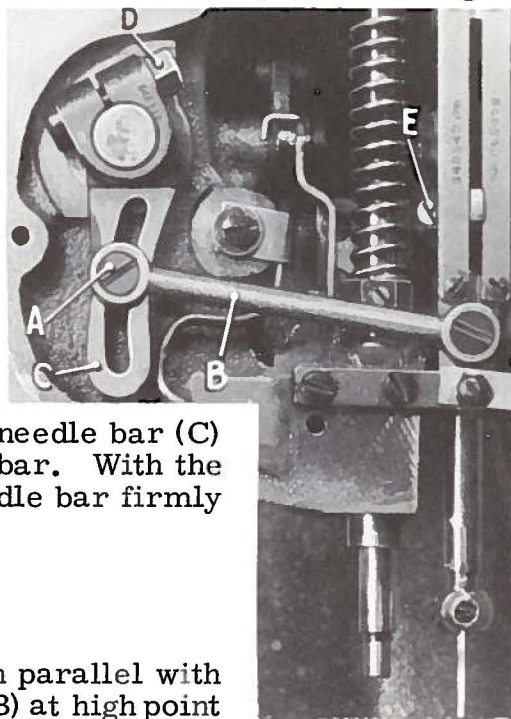
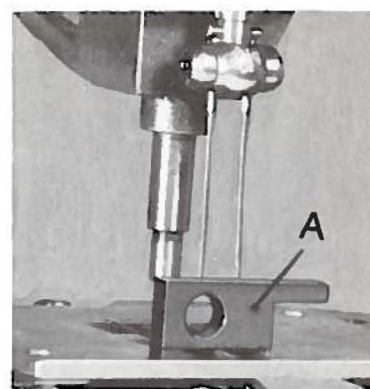

Fig. 2
Fig. 8
Insert a new set of needles, Type 133GS, and with feed dog in machine, turn handwheel until needles correspond with needle holes in feed dog, without deflection, either at the front or back of needle hole. Synchronize travel of feed dog and needle at $13/64$ inch, approximately 5 stitches per inch. To set needle travel at approximately 5 S. P. I., loosen screw (A, Fig. 2) and slide link (B) to bottom of slot in needle feed drive lever (C) and re-tighten screw.
To establish the correct distance between needle bar and presser bar, use gauge 21227 BT (A, Fig. 4). Loosen nut on needle feed drive lever (D, Fig. 2). Place gauge 21227 BT on presser bar (B, Fig. 4) with part number up. Rotate gauge in a counterclockwise direction so the shortest surface slips between the presser bar (B) and the needle bar (C) and the longest surface stops against the needle bar. With the needle bar at the bottom of its travel, hold needle bar firmly against the gauge and re-tighten nut (D, Fig. 2).
Set the height of the needle bar so that the points of the needles are approximately $\frac{1}{2}$ inch above the top surface of the throat plate when the needles are at the high point of travel using gauge No. 21227 BT (A, Fig. 8) on its side. Loosen screw (E, Fig. 2) and move needle bar up or down as required and then tighten screw.
Start operating on a piece of fabric. Set stitch to required length. To alter stitch length, loosen nut (C, Fig. 11) (it has a left hand thread) and turn screw (D) in head of main shaft until desired stitch length has been attained and tighten nut. Turning screw in a clockwise direction shortens the stitch and turning screw in a counter-clockwise direction lengthens the stitch. The travel of the needle bar should be changed to correspond to the travel of the feed dog and this is accomplished by loosening screw (A, Fig. 2) and sliding link (B) up or down until the movement of the feed dog and the needle bar are synchronized. Sliding the link upward shortens the travel of the needle bar and sliding it downward lengthens the travel of the needle bar.